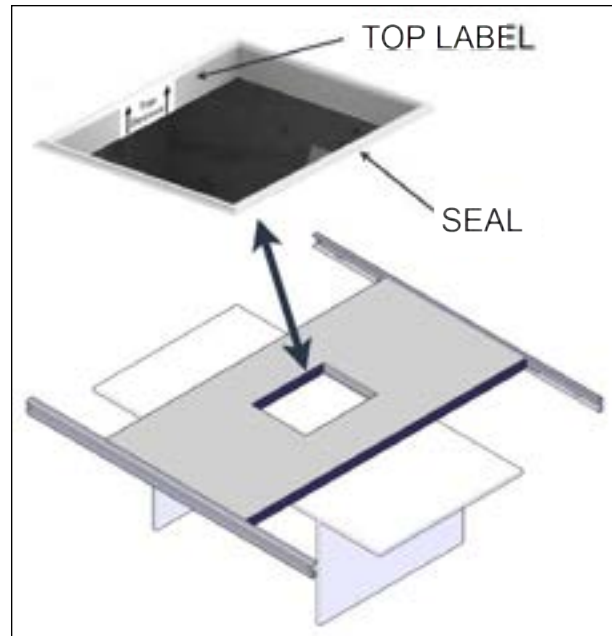

FIGURE 36: ESCAPE HATCH AND C-CHANNEL INSTALLATION
1. Install the center cover panel, with an opening in the center, on the mounting table. Make sure the seal around the escape hatch opening is on top and the top label is properly oriented see Figure 36
2. Install the long C-Channels, 94 9/16". (240 cm) see Figure 36.